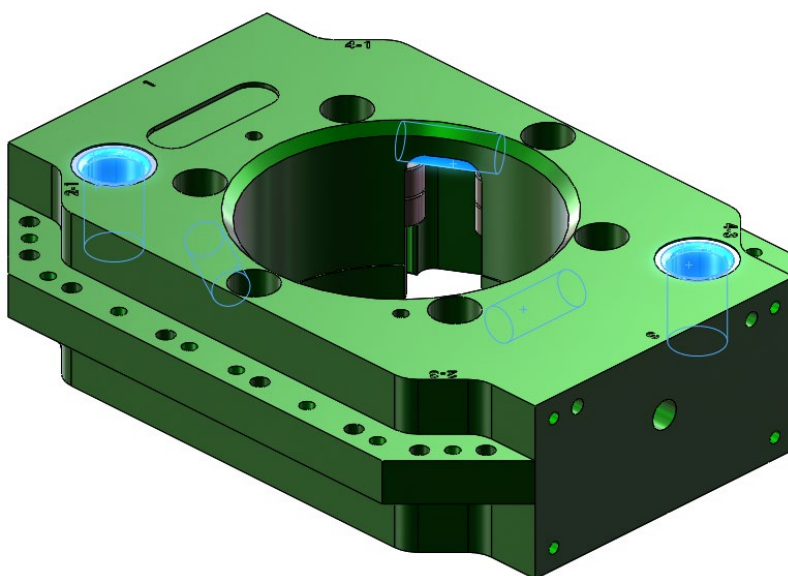

Figure 8.1.1.1-1. E125 Tool Side Lubrication
2. Apply a liberal coating of white lithium grease to the latching surfaces and to the inner surface of the locating/alignment bushings, as shown in Figure 8.1.1.1-1 with the surfaces highlighted blue.